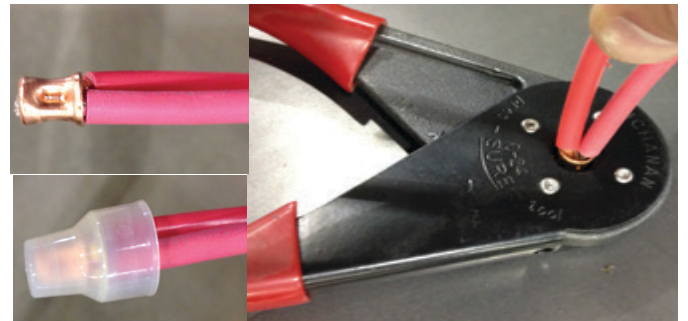

Figure 2
(See Figure 2)
STEP 2: Place metal crimp around the wires, crimp and place protective cover over crimp. *(See Figure 2)*